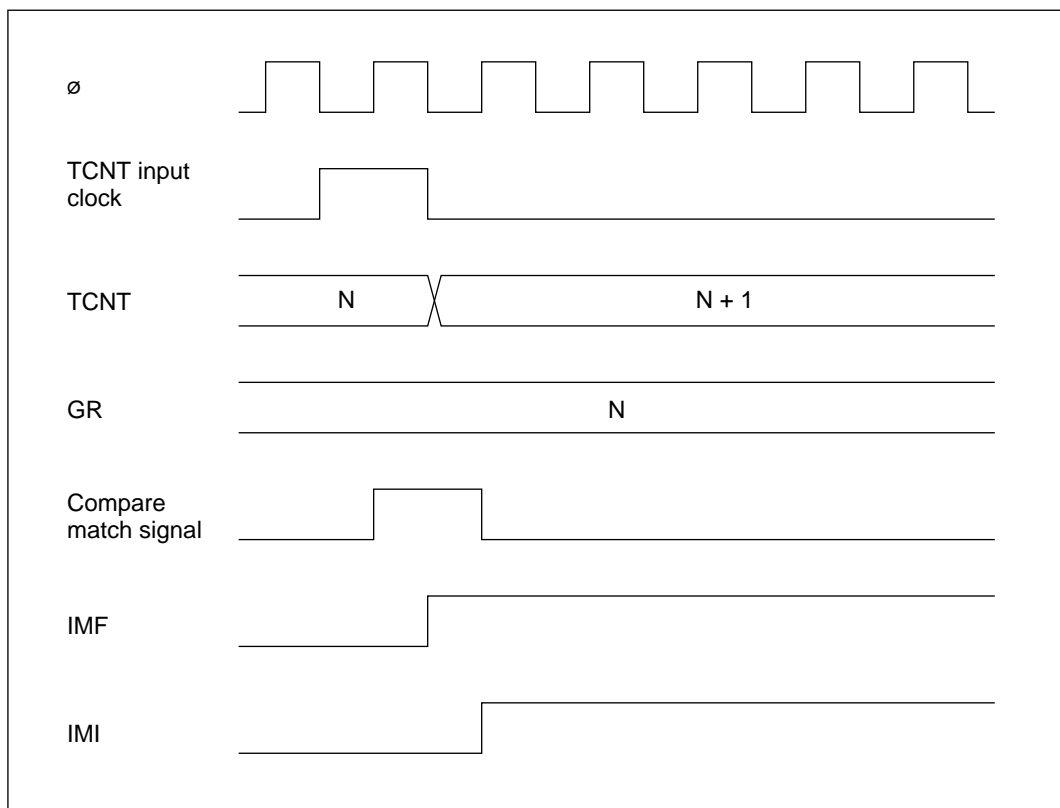

Figure 8-41 Timing of Setting of IMFA and IMFB by Compare Match
Timing of Setting of IMFA and IMFB at Compare Match: IMFA and IMFB are set to 1 by a compare match signal generated when TCNT matches a general register (GR). The compare match signal is generated in the last state in which the values match (when TCNT is updated from the matching count to the next count). Therefore, when TCNT matches a general register, the compare match signal is not generated until the next timer clock input. Figure 8-41 shows the timing of the setting of IMFA and IMFB.